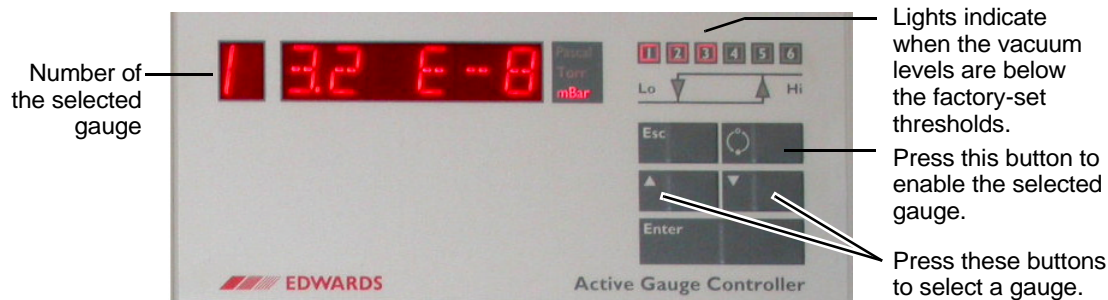

Figure 4-3 Vacuum Gauge Controller
4. Press the **ELECTRONICS** button to initialize the system electronics including the vacuum gauge controller (Figure 4-3).